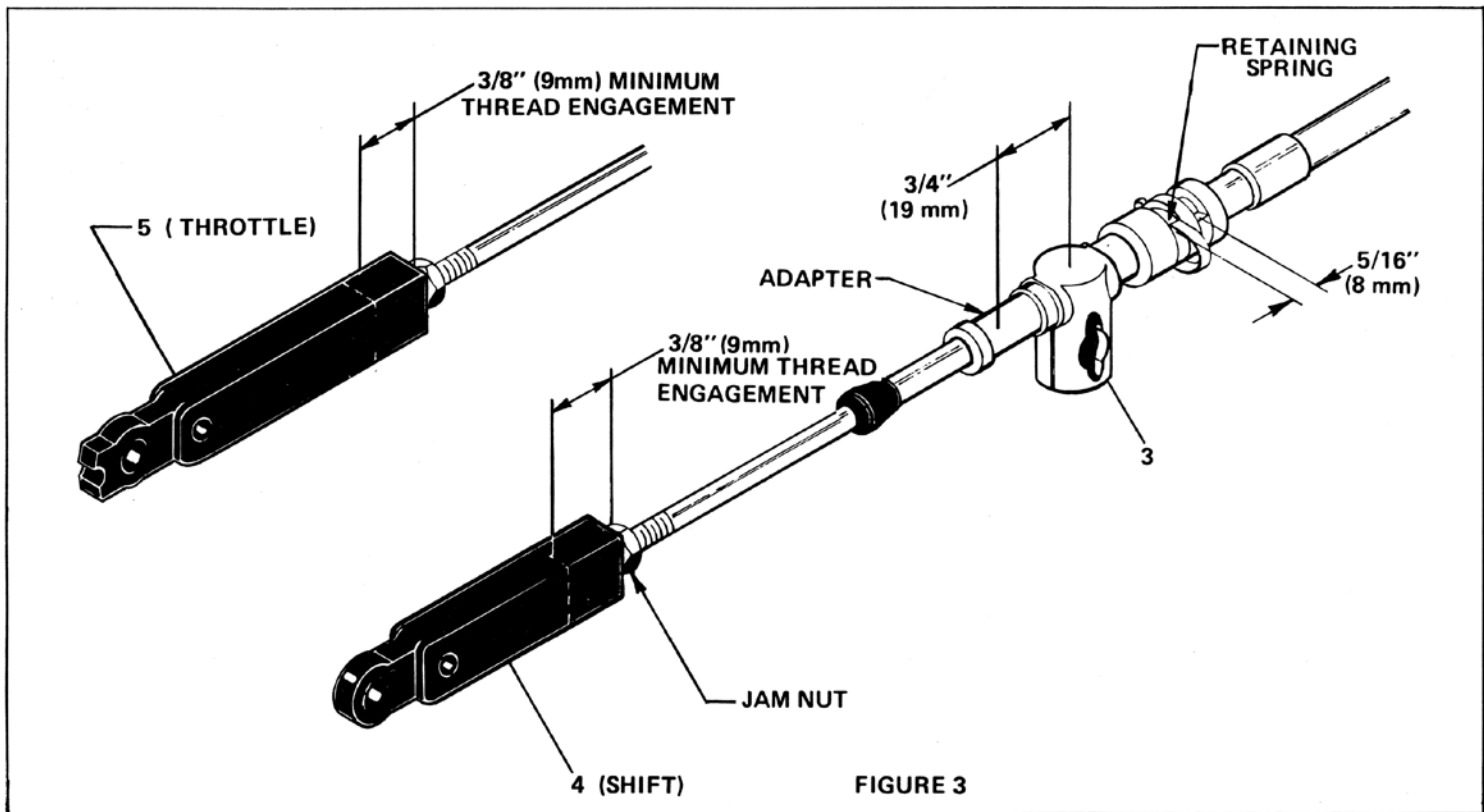

FIGURE 3
3. Place one Anchor Nut (item 3) over one of the undercuts on each Adapter as shown in Figure 3. Press firmly on Anchor Nut to snap it into position.
5. Thread Short Connector (item 4) onto rod end of shift cable until it touches jam nut. Tighten jam nut securely against Connector, as shown.
6. Thread Long Connector (item 5) onto rod end of throttle cable until it touches jam nut. Tighten jam nut securely against Connector.